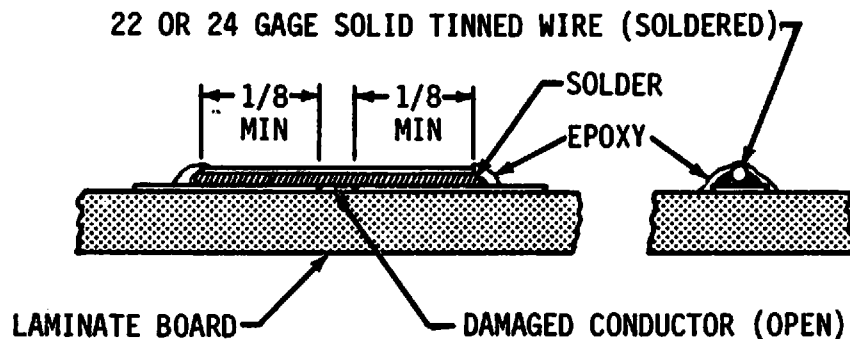

FIGURE 4-3. REPAIRING DAMAGED CONDUCTOR
- C. Hold the wire on the centerline of the conductor, across the break, and solder in place (See Figure 4-3).